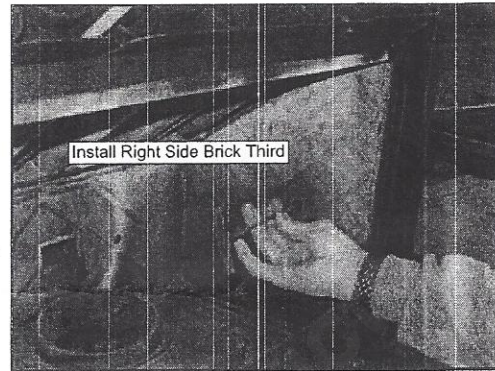

Figure 21
3. Install the right side brick and secure with the fastener removed earlier. If you are just upgrading your brick set, use the 5/16 x 18 filler screw and 5/16 flange nut to fill the hole in the right brick. **Figure 21.**